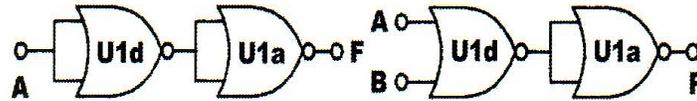

Fig. 2-2 (c) NOR gate use as Buffer and OR gate
13. Use U1a and U1c to construct an OR gate shown on the right side of Fig. 2-2 (c). Insert connection clips between F1 ~A1 and A1~B1. Connect inputs A to SW0, B to SW1; and output F3 to L1. Follow the input sequences shown below and record the output states in Table 2-1.